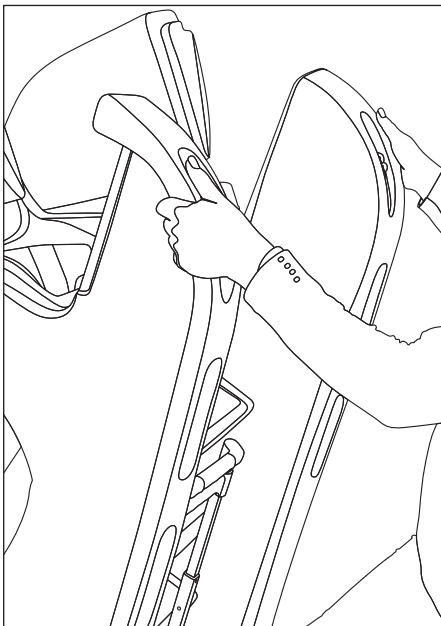

Figure 5
3. Using both hands, as shown in **Figure 5**, grab the ladder handles and slowly begin leaning the SlideAway towards you to transfer the weight of the slide onto the trolley wheels, enabling you to roll the slide to the desired location.